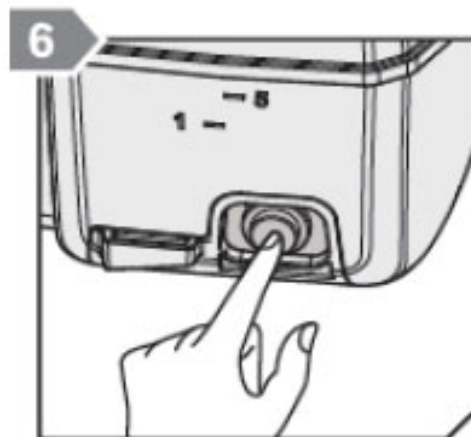

Fig. 21: Switch ON the device
Step 7: Press the Power button on the device (Fig. 21).